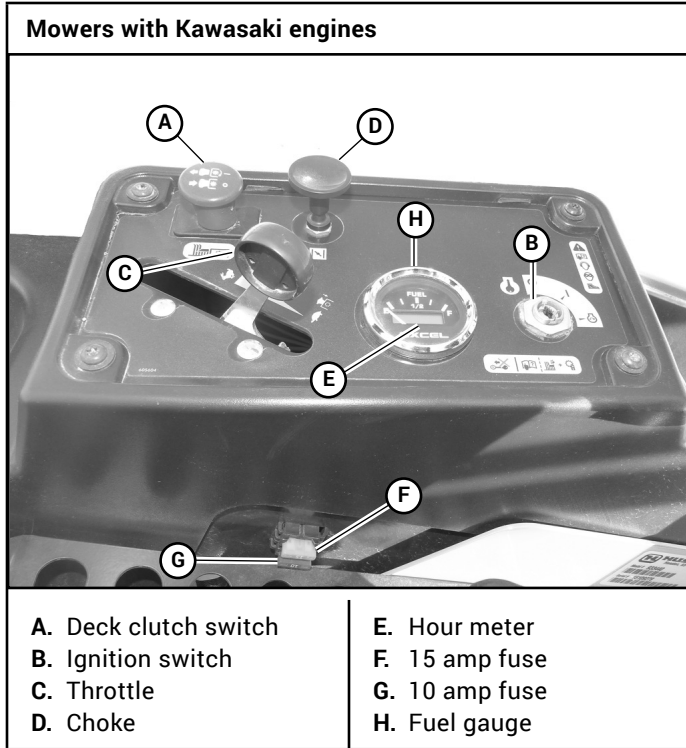
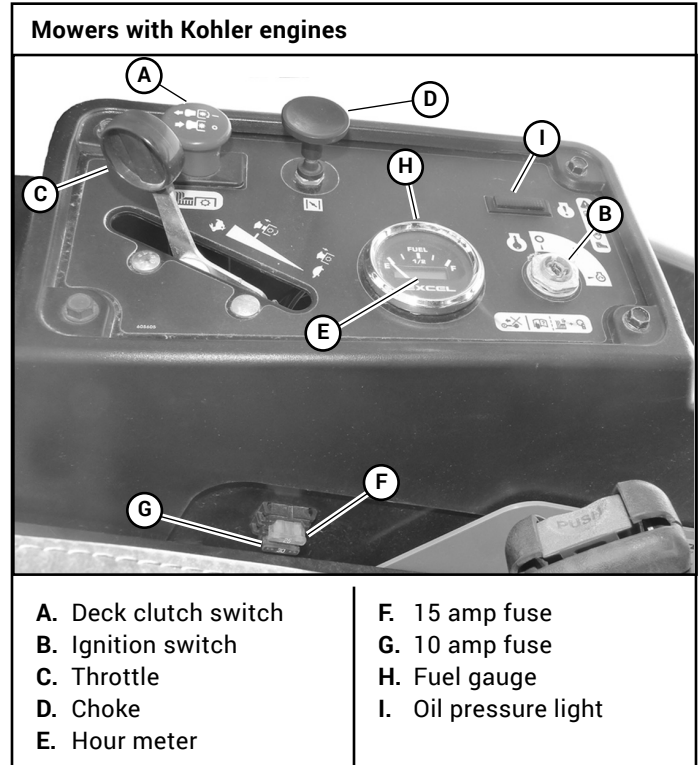
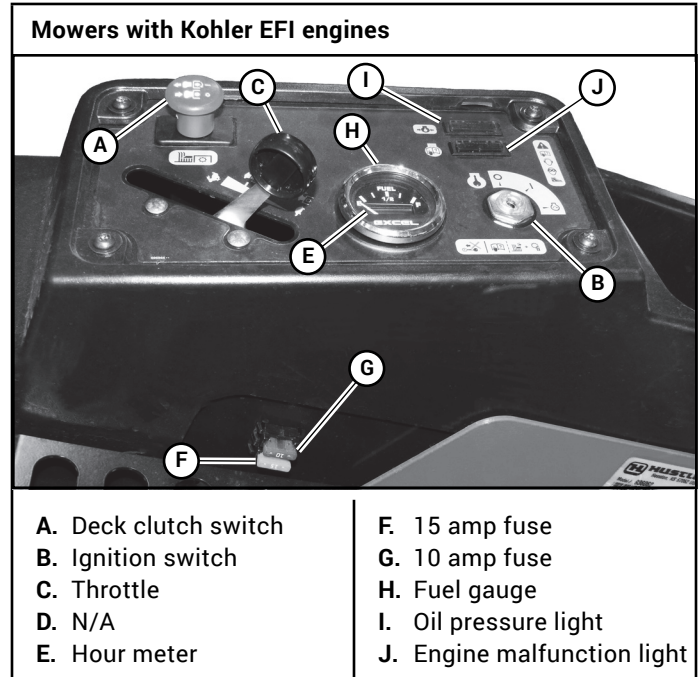

Figure 3-1
Figure 3-2
Figure 3-3
- A. Deck clutch switch (Figure 3-1, Figure 3-2, & Figure 3-3)** – this switch engages the deck. Pull the switch up to engage and push the switch down to disengage the clutch.
- B. Ignition switch (Figure 3-1, Figure 3-2, & Figure 3-3)** – a three position switch: “OFF”, “RUN”, and “START”. With the key inserted, rotate it clockwise to the “START” position; release the key when the engine starts, and the switch will automatically return to the “RUN” position.
- C. Throttle control (Figure 3-1, Figure 3-2, & Figure 3-3)** – a cable is linked to the engine throttle for controlling engine speed. Move the lever forward to increase engine rpm, move the lever rearward to decrease engine rpm.
- D. Choke control (Figure 3-1 & Figure 3-2)** – a cable is linked to manually operate the engine choke. When the lever is in the down position, the choke is in the “OFF” (run) position. When the knob is pulled up, the choke is in the “ON” (start) position. **Do not** operate the machine in the “ON” (start) position.
- E. Electronic hour meter (Figure 3-1, Figure 3-2, & Figure 3-3)** – registers 1/10 hour increments up to 9,999.9 total hours. It is connected to the ignition switch. It records the accumulative time while the ignition key is switched to the “RUN” position.
- F. 15 amp fuse (Figure 3-1, Figure 3-2, & Figure 3-3)** – Deck clutch – 15 amp, blade-type.
- G. **10 amp fuse (Figure 3-1, Figure 3-2, & Figure 3-3)** – Ignition/Safety system – 10 amp, blade-type.
- H. **Fuel tank gauge (Figure 3-1, Figure 3-2, & Figure 3-3)** – This gauge shows the fuel level in the fuel tank.
- I. **Oil pressure light (Figure 3-2 & Figure 3-3)** – this light comes on when the ignition switch is placed in the RUN position and stays lit until the engine is running and a safe oil pressure is developed. If the light comes on during operation, shut engine off immediately and locate and correct the problem.
- J. **Engine malfunction light (Figure 3-3)** – this light comes on when there has been an engine malfunction on mowers with electronic fuel injected engines. Refer to the engine owner’s manual for more details.